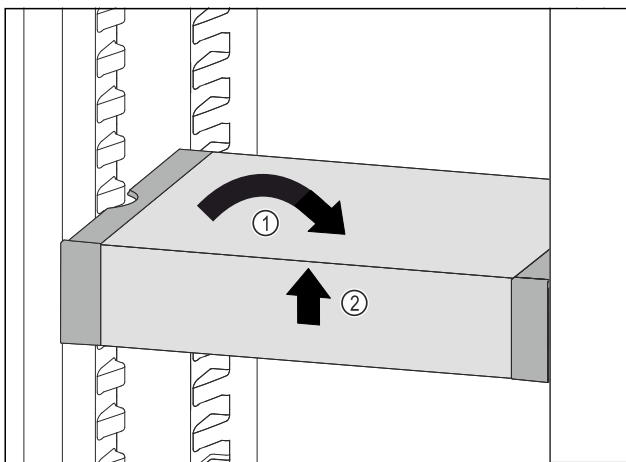

Fig. 197
- ▶ Set VarioSafe straight. Fig. 197 (1)
- ▶ Lift VarioSafe at the front. Fig. 197 (2)